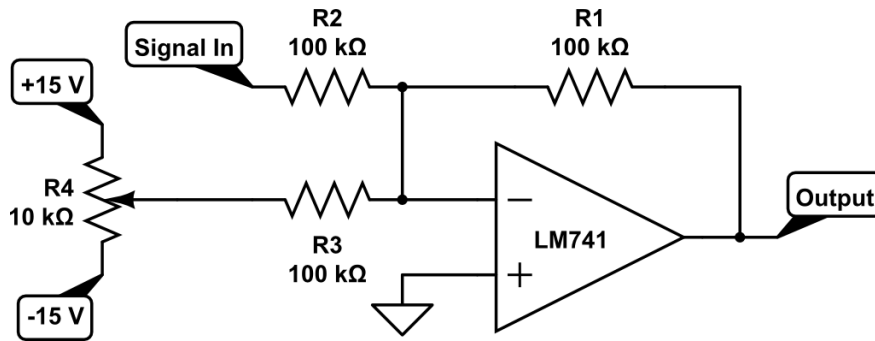

Figure 5: Summing Amplifier
Construct the circuit shown in figure 5 and use a 2Vpp 1 kHz sine wave as the input signal. Connect a multimeter to measure the voltage on the middle (output) pin from the potentiometer. (Recall that a potentiometer is just a voltage divider.) *Describe what happens as you adjust the potentiometer.*
- What configuration is OA4 in? Construct just that portion of the circuit and test that Verror behaves as expected by connecting the Set Point to 5 volts and V3 to the output of a 10k potentiometer wired to provide a variable voltage signal as in figure 5. Connect channel 1 of the scope to V3 and channel two to Verror. Use the pot to vary the voltage both below and above 5 volts and describe the result.